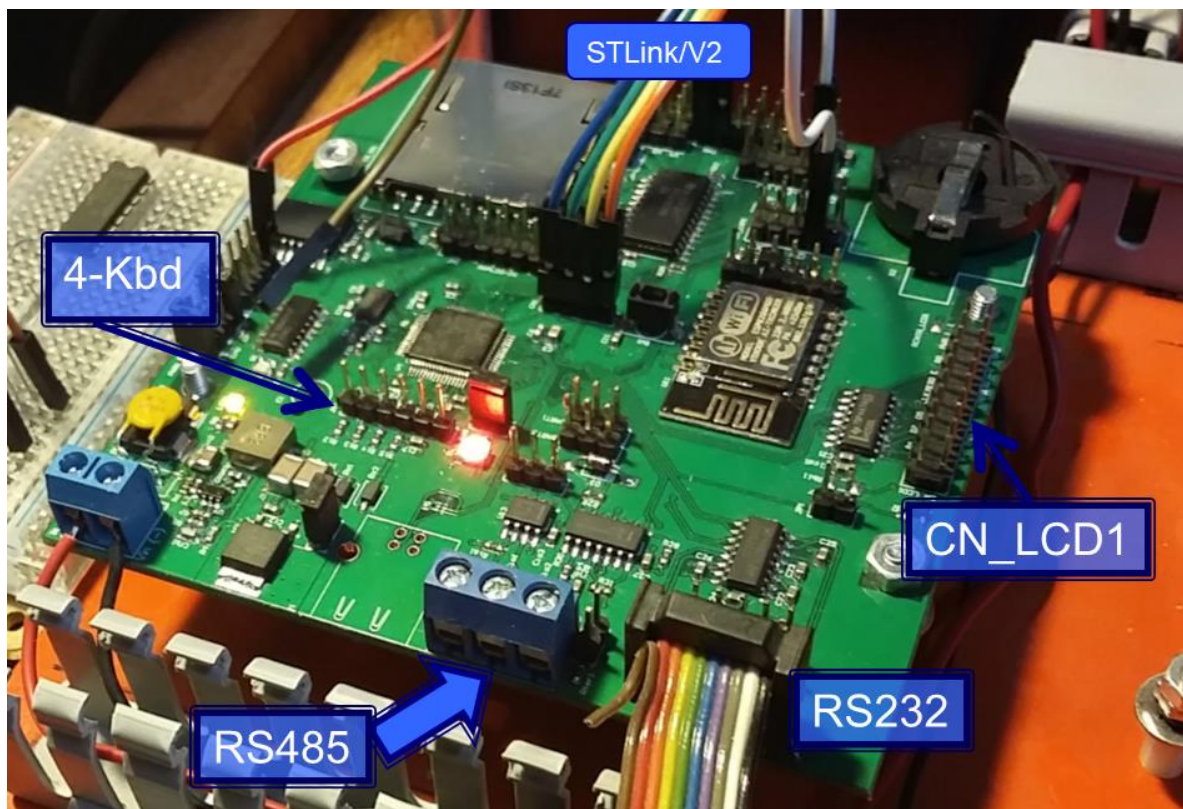

Figure 1 – Photo of CL3 board v1 - 2018
The CL3 semi-industrial board module from L&R Ing. (Figure 1) is an STM32 ARM-Cortex M4/F based unit, integrating the STM32F411RET (LQFP64 package) [ref00] microcontroller. It can be programmed in C or C++ using the STM32CubeIDE [ref01], which deploys the gcc arm-none-eabi cross-compiler toolchain [ref02]. In-circuit programming is possible through a standard connector for STLink/v2 or compatible USB programmers [ref03]. The board is slightly smaller than its 8-bit CL2 predecessor [ref04], but shares many features such as a TCXO DS32kHz chip to keep accurate timing on the internal Real Time Clock IC, a compatible mechanical layout and the industrial SD card interface. A TPS54302 switching regulator supplies power for the circuit from an external source between 7 and 20 Vdc, and is coupled to a TPS2085 Power Management IC to reduce power consumption by turning off unused peripherals. Consumption is typically 0.03 A @ 12.8 V. A complete schematic diagram can be found in: https://github.com/LyRIng/CL3board/blob/master/doc/cl3schem/CL3_Schem.pdf [ref05]